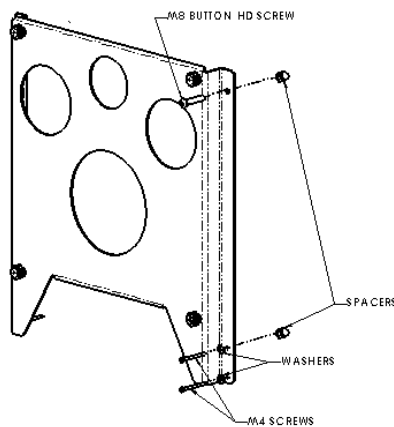
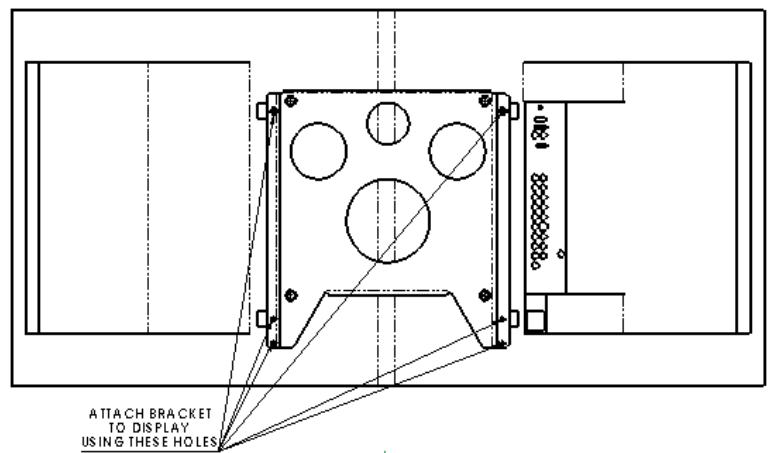

Figure 6
Figure 7
- Using the M8 and M4 screws, washers and nylon spacers, secure bracket to display. See Figure 6 and Figure 7. Do not over tighten screws.